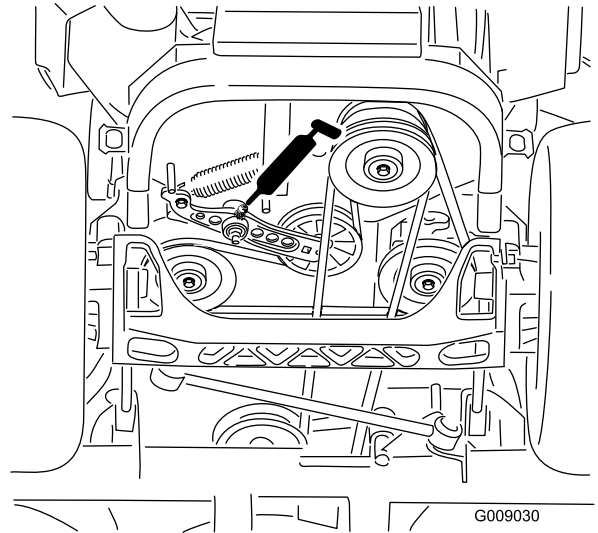

Figure 49
6. Grease the drive-belt idler arm (Figure 49).